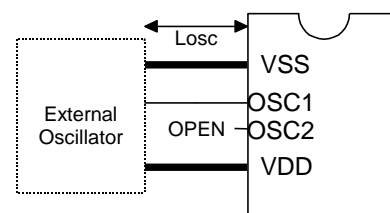

Figure 2-3. Sample Oscillation Circuit 3
- When the external oscillation option is selected: (Figure 2-3)